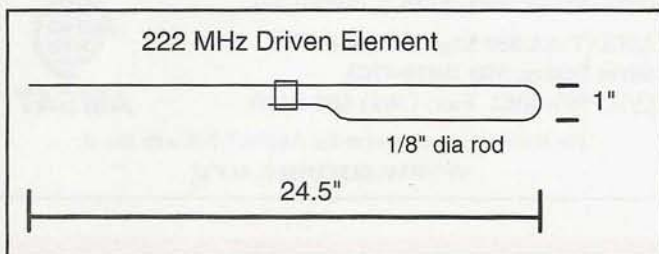

Figure 6. Driven element.
*All versions use the same driven element as in figure 6.
The driven element is made from 1/8-inch diameter material (figure 6). Silicon bronze welding rod works great. Brass tubing from a hobby shop also works well. Bare #12 copper wire is a